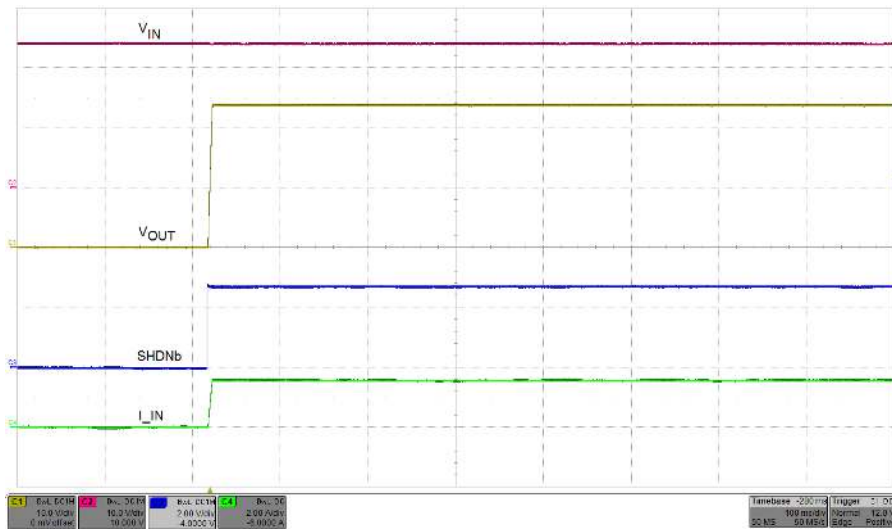

Figure 6. Restart From Latch-Off Mode
14. Press and release the reset switch (S1/S2) to re-enable the device from latch-off mode and verify the recovery or restart waveform as shown in Figure 6.